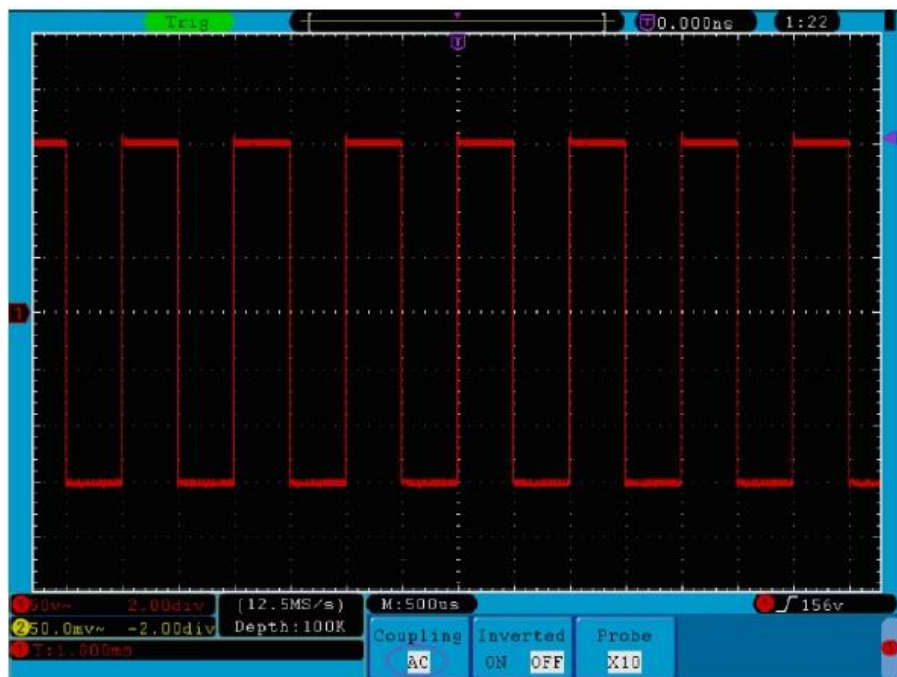

Fig. 15 AC Coupling Oscillogram
- * Then, press **F2** button to select the Coupling item as “AC”. By setting the channel coupling as AC mode, the direct current component of the signal will be blocked. The waveforms are shown as **Fig. 15**.